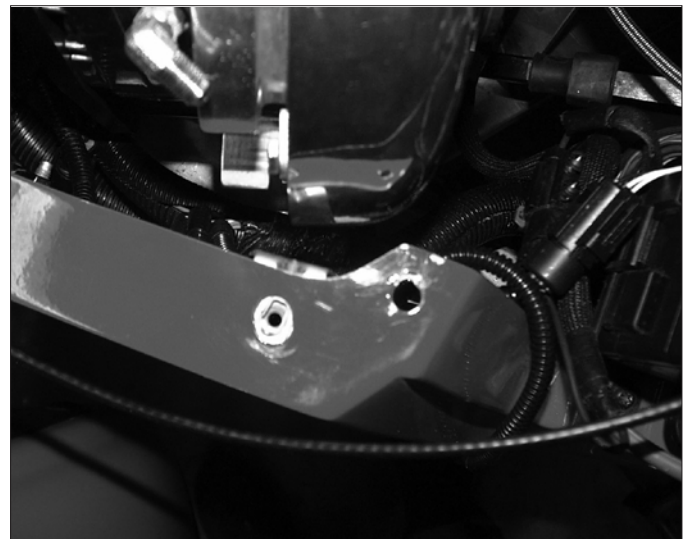

Fig. 7-4
- C. Test fit the supercharger by laying it into the mounting bracket. You will need to trim the body panel for clearance. Do not permanently attach the supercharger yet. (See Fig. 7-4.)